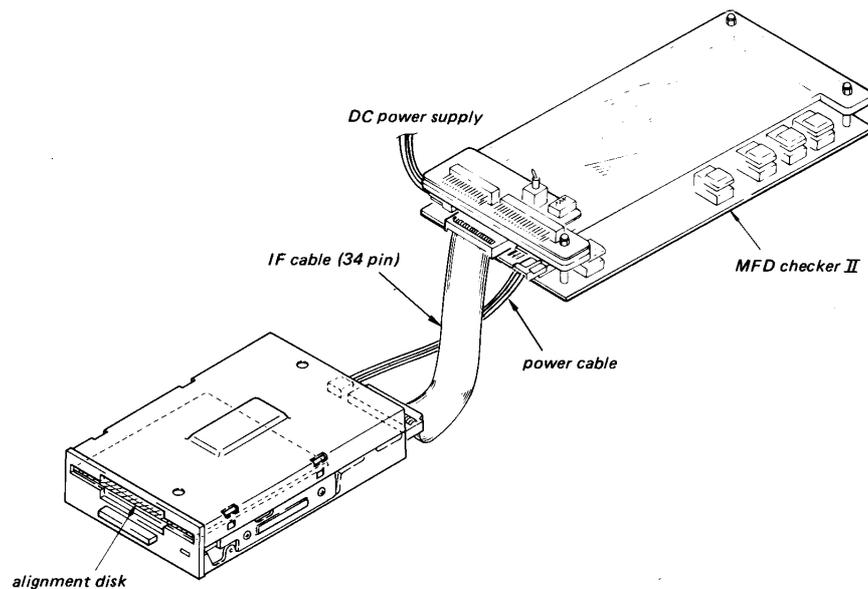

Fig. 6-1 Configuration of Function Check
1. Referring to Fig. 6-1 (Micro Floppydisk Drive Connection), connect the drive to MFD checker II.
1. Connect the MFD to the MFD checker II (refer to Fig. 6-1).